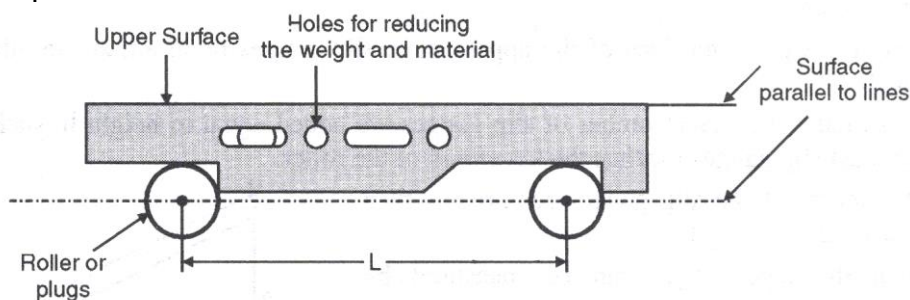

Fig. 11.4.1
- As shown in Fig. 11.4.1, two accurately lapped rollers are located at the extreme position.